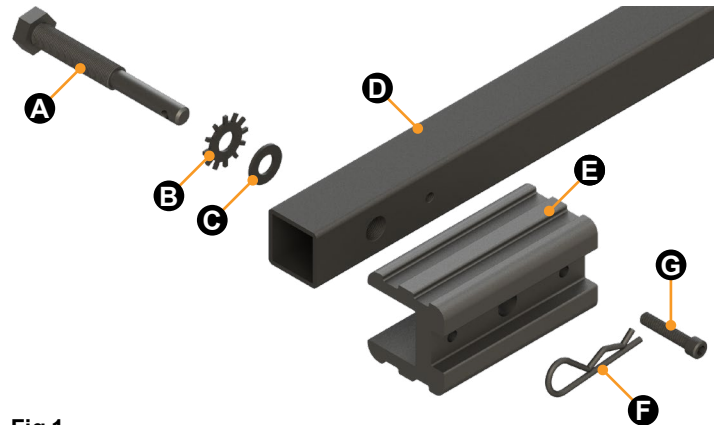

Fig.1
2. Place a star washer (Fig.1B) and then a flat washer (Fig. 1C) onto the threaded NoMotion hitch pin (Fig. 1A), and insert the pin through the hitch receiver and into the larger threaded hole of the shank (Fig.1). The flat washer will protect the paint on the hitch receiver.